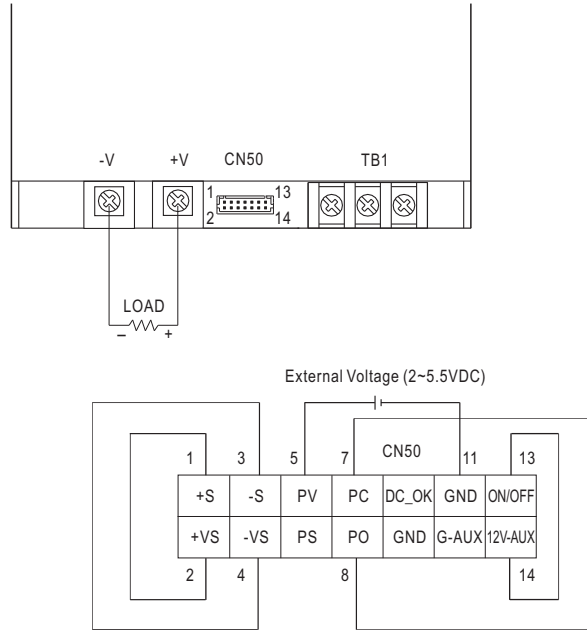

Fig 5.1
- (1) Using an external DC source (2~5.5VDC) between "PV"(pin5) and "GND"(pin10, 11) that is shown in Fig5.1